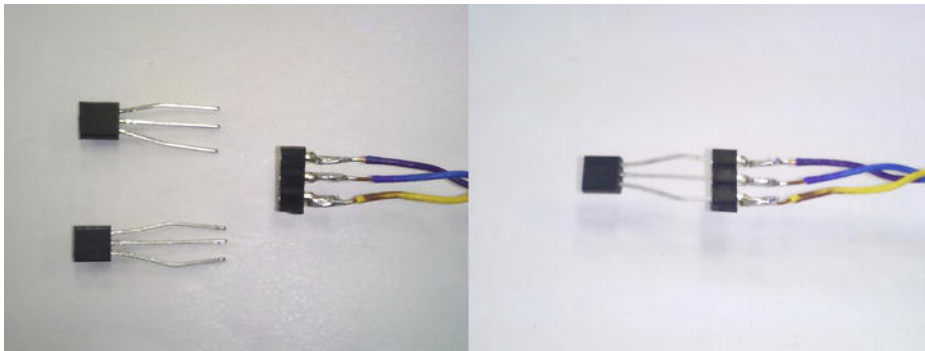

Figure 2-4. A 3-conductor cable soldered to a three pin female header. Thus, we can easily try out an assortment of sensors on this one cable.
- Take a more practical route of soldering a 3-pin female header on the sensor end, so that you can easily swap sensors attached to the cable, as shown in Figure 2-4. Be sure to use heat shrink tubing to insulate and protect the solder joints (not shown in Figure 2-4).